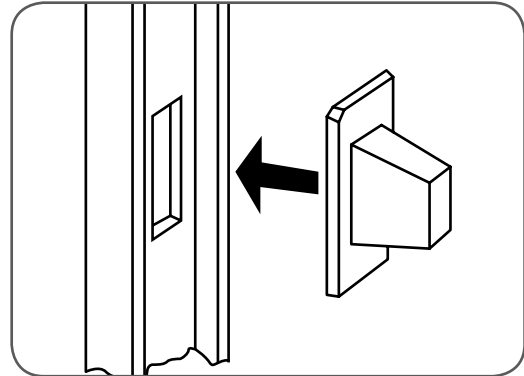

Fig.03
- b. Install the locking bar covers if there are locking bar holes in the guides. **(Fig.03)**